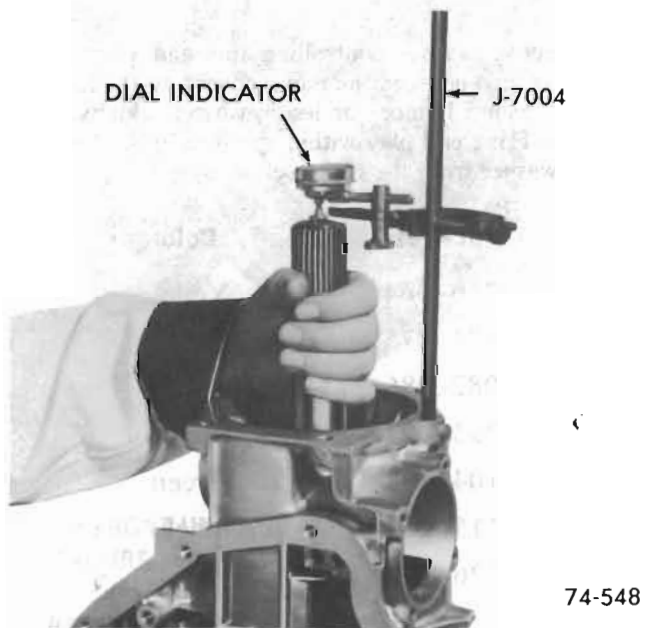

Figure 76-90
b. Mount dial indicator, on Slide Hammer Bolt J-7004 and index with end of the output shaft. See Figure 76-90.